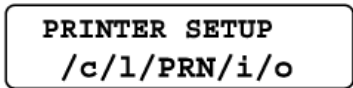

Figure 8-164 Color Video Printer Window Display (PRINTER SETUP top menu displayed)
- 1.) Return to the PRINTER SETUP top menu using the  button (Figure 8-164, above).